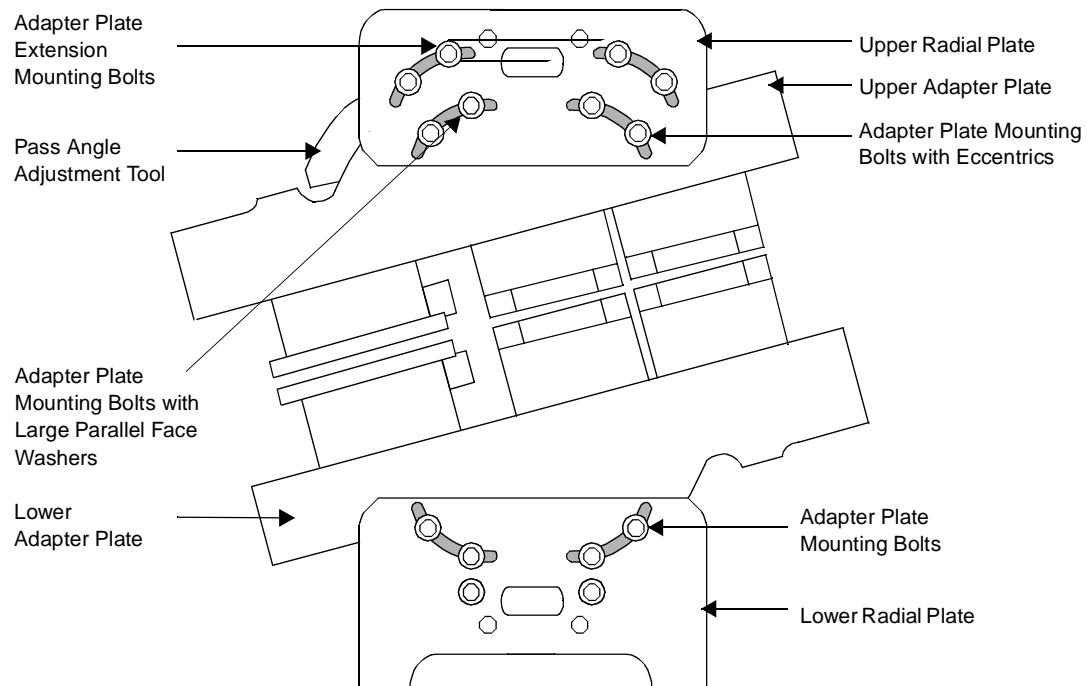

Figure 3-11 Pass Angle Adjustment
This procedure describes how to make adjustments to the pass angle. To insure proper alignment of the sensor carriage assembly, you will perform a process direction alignment and an air gap alignment at the same time. See Figure 3-11.
6. Using a 13 mm socket or wrench, loosen the four locking M8 bolts (lower adapter plate mounting bolts) in the curved slots on each side of the bottom carriage. See Figure 3-11 on page 45.
10. Tighten the four locking M8 bolts (lower adapter plate mounting bolts) on each side of the bottom carriage. See Figure 3-11 on page 45.